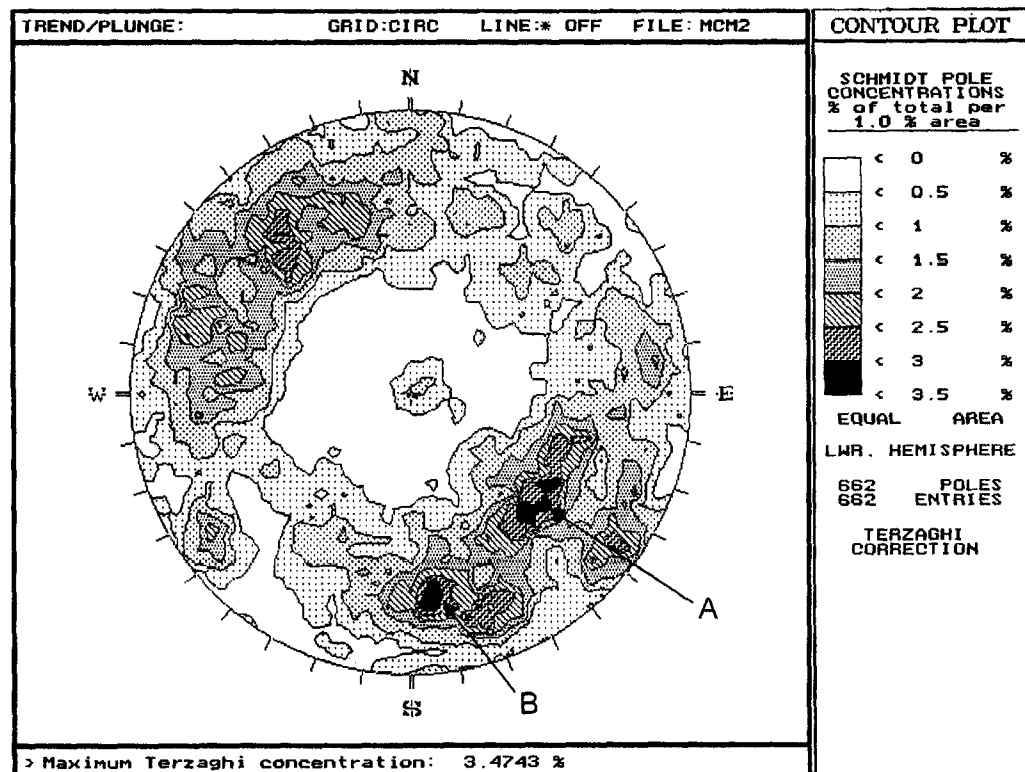

Figure Q8
- (b) Figure Q8 shows the concentration of the pole plot of discontinuities in an open pit copper mine. The shape of the pit is almost circular. Which part of the pit is having some problems in slope stability? If the dip of fracture set A is 50° towards 307° and the dip of fracture set B is 61° towards 353° , what is the steepest safe slope angle of that part of the pit? Assume that the angle of friction of the rock is 36° . Give reasons for your answers.